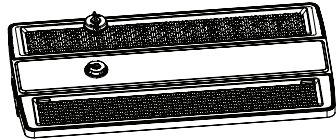

FIGURE 1
Step 1: Untwist to remove the sensor socket cap at the front of the lamp. (See Figure 1).